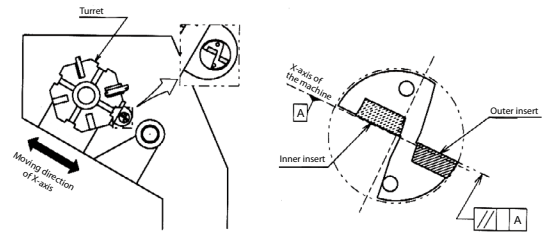
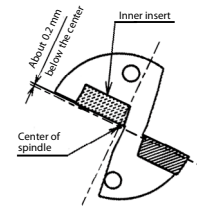

Fig. 1 Installation to the lathe
Fig. 5 Front view of the drill
1. Adjust the scale at the flange periphery of the sleeve to the reference mark of the drill. (Fig. 1)
2. It is recommended to set the outer insert as shown in Fig.1 with the outer insert facing the operator. (It is also possible to use by setting 180° reverse position). In case of the lathe with two turrets, when installing the drill to the lower turret, the outer insert should be set so as to face the operator. (It is also possible to use it by setting at 180° reverse position)
When installing as shown in Fig. 1, the inner insert will be set around 0.2 mm below the center of spindle. (Fig. 5) This is the normal position of the center height and the drill is designed to be handled in this condition. However, in case that the turret of the lathe is out of the center of spindle, sometimes the inner insert may be set above the center, or excessively below the center. For stable machining, it is essential to check the center height carefully.